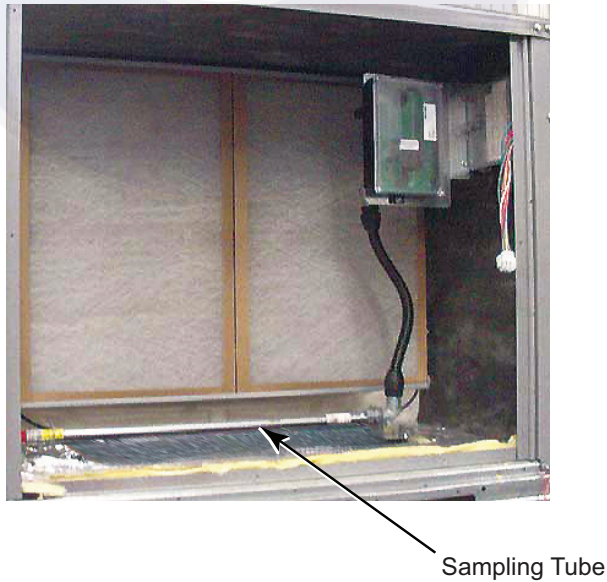

Fig. 54 - Return Air Sensor Operating Position
3. Rotate the detector plate so the sensor is facing outwards and the sampling tube connection is on the bottom. See Fig. 54.
4. Screw the sensor and detector plate into its operating position using screws from Step 1. Make sure the sampling tube connection is on the bottom and the exhaust tube is on the top. See Fig. 54.